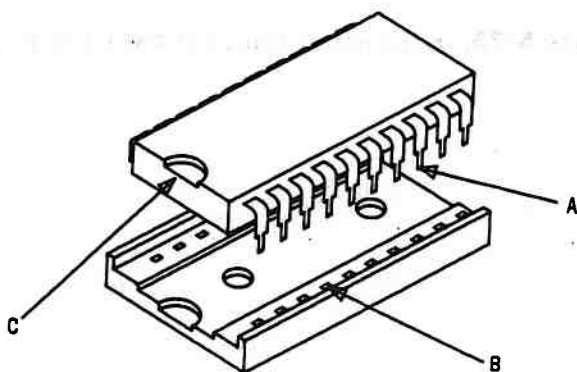

Figure 5-76. Inserting New RAM Chip into Socket
9. Align the new RAM chip pins (A) with the socket (B). Make sure that the notch in the chip (C) is facing the same direction as the other chips on the board (Figure 5-76).